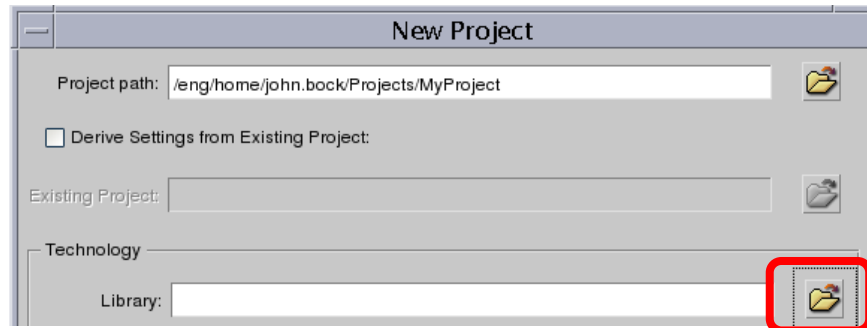

Figure 6: New Project Dialog Box
- a. In the **New Project** dialog box, click the **Open Directory** icon to the right of the field **Technology Library** (see Figure 6).